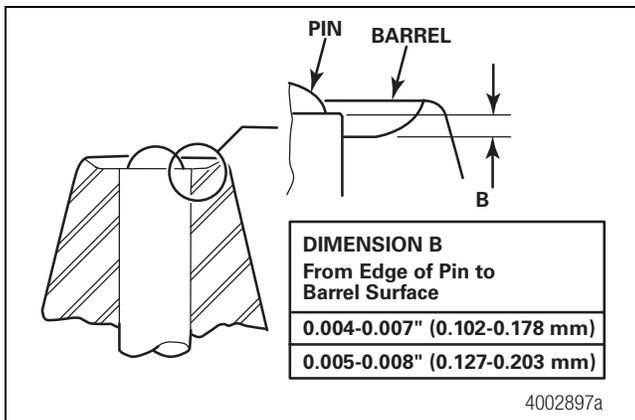

Figure 8.5
5. Measure Dimension B from the sharp edge of the anvil pin to the bottom surface in the head of the barrel. Figure 8.5.
- **If Dimension B exceeds the specification in Figure 8.5:** Use the following procedure to shorten the anvil pin.
- **If Dimension B is less than the specification in Figure 8.5:** Use the following procedure to shorten the barrel.